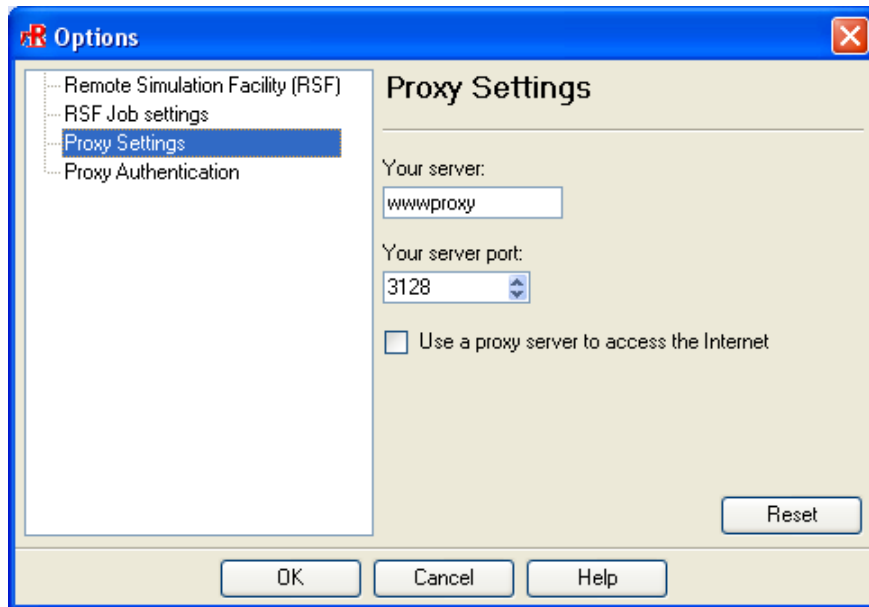

Figure 27.11.28: The Proxy Settings Panel
- iii. Select the **Proxy settings** node in the tree (Figure 27.11.28) to configure the proxy to access the RSF. Enter the server and server port information. Select **Use a proxy server to access the Internet** to access the Internet using a proxy server.